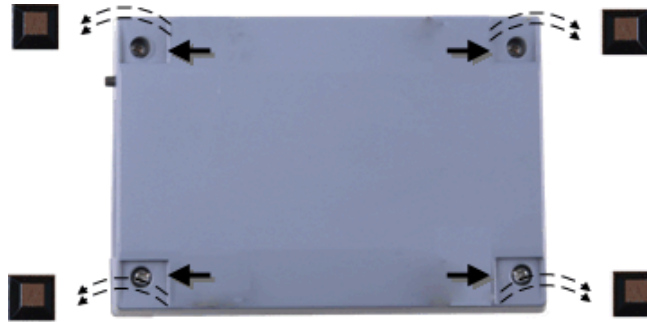

Figure 8. Location of screws connecting bottom and top sections of case
3. Remove the four screws shown in Figure 8 from the bottom of the module.